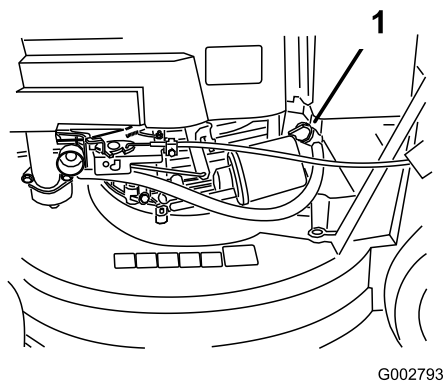

Figure 14
2. Open the fuel valve (Figure 14)